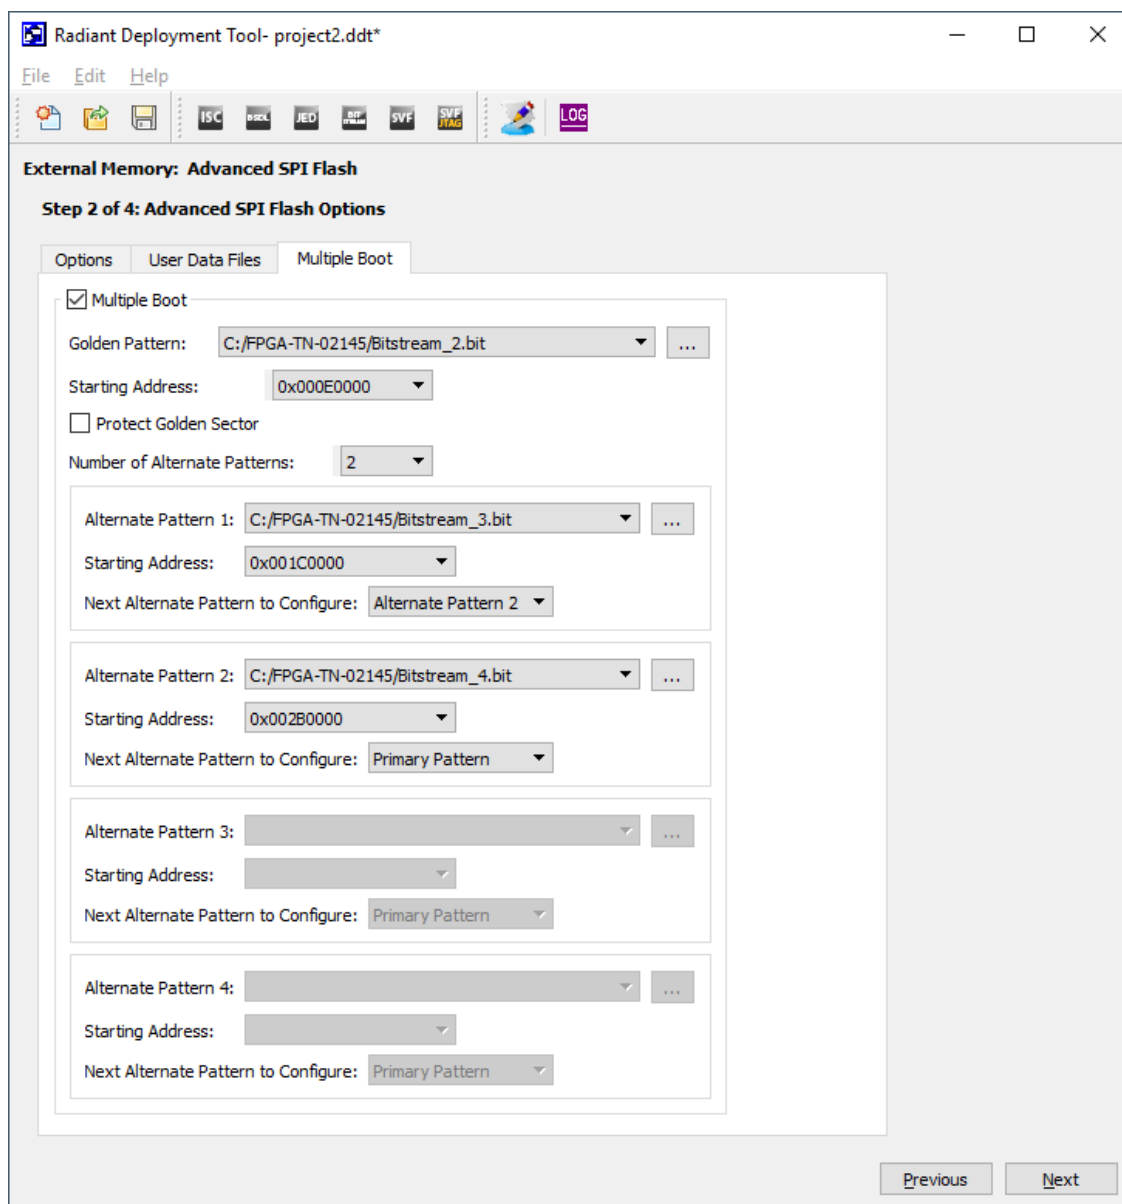

Figure 6.14. Advanced SPI Flash Options – Multiple Boot Tab Window
- Go to the Multiple Boot tab (Figure 6.14).